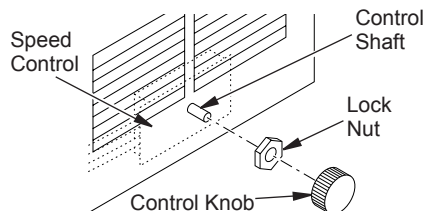

Figure 3 - Attaching Speed Control
- Place speed control against inner wall of front panel, pushing the plastic control shaft forward through the opening (see Figure 3).
- While supporting speed control, secure control shaft with lock nut by pushing and turning lock nut with pliers clockwise until it is tight against front panel. Place control knob provided on shaft (see Figure 3).